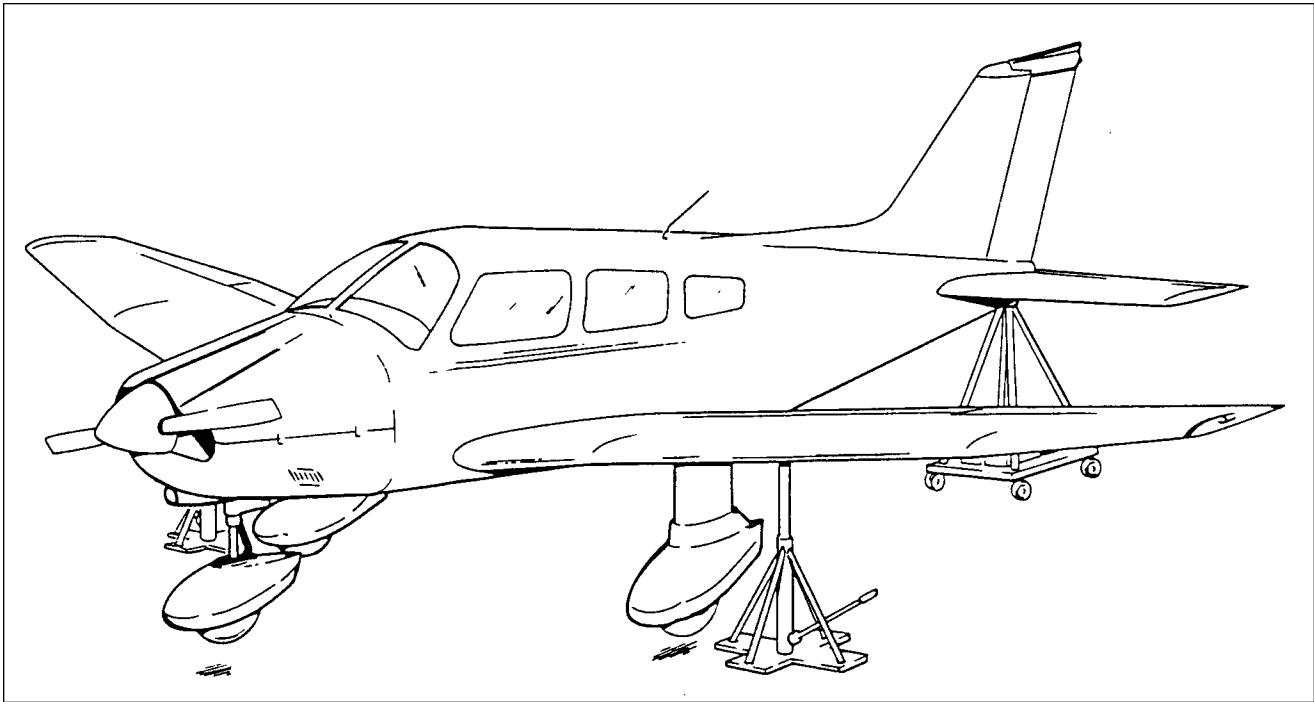

Figure 7-1. Jacking Arrangement
1. Place jacks under jack pads on front wing spar. (Refer to figure 7-1.)